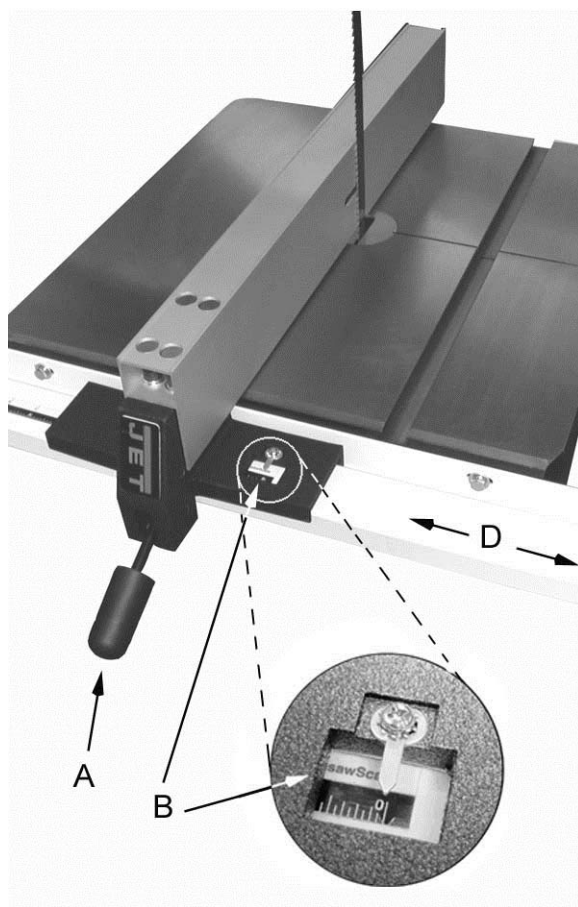

Figure 10
5. Move the fence assembly to the other side of the blade as shown in Figure 10 so that the *pointer* (B, Fig. 10) on the fence body points to zero on the scale. Lock the fence by pushing the *handle* (A, Fig. 10) down.
6. Move the guide rail (D, Fig. 10) with the *locked fence* until the fence is flush against the blade (C, Fig. 10). Do not unlock the fence to perform this. Move the fence and guide rail together when establishing the zero point.